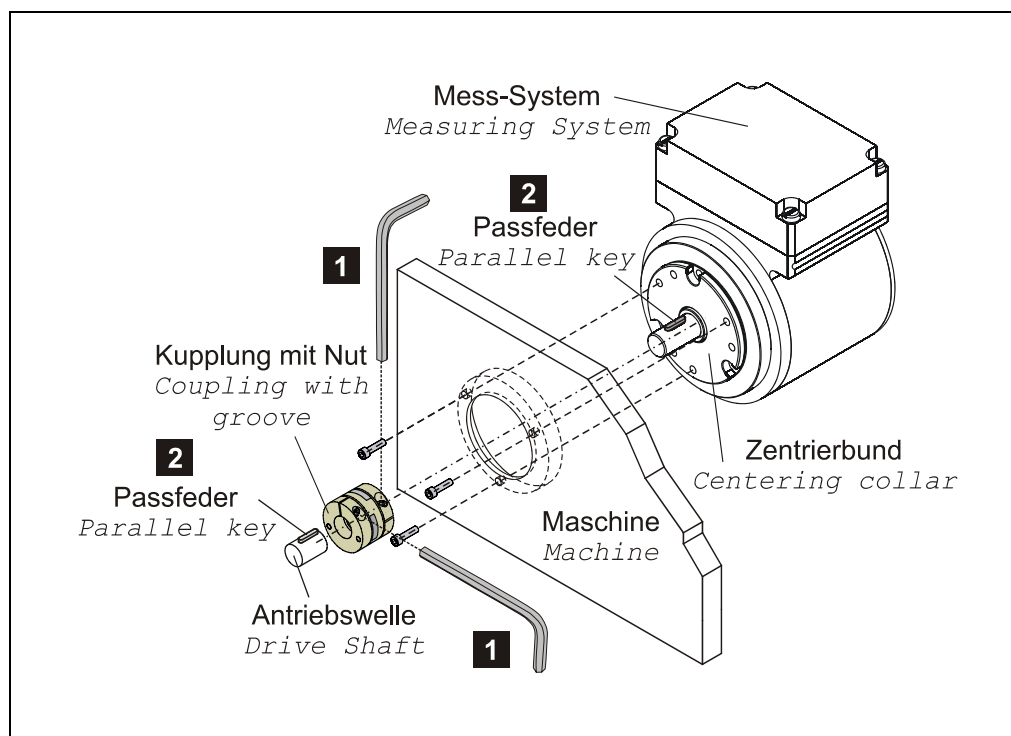

Figure 2: Flange installation
- Axial slipping of the measuring system on the drive shaft must be prevented by the coupling fixing, see Figure 2, **1**.
- Radial slipping of the measuring system on the drive shaft must be prevented by means of form closure, using a parallel key / groove combination (Figure 2, **2**); a coupling with groove must be used for this purpose.